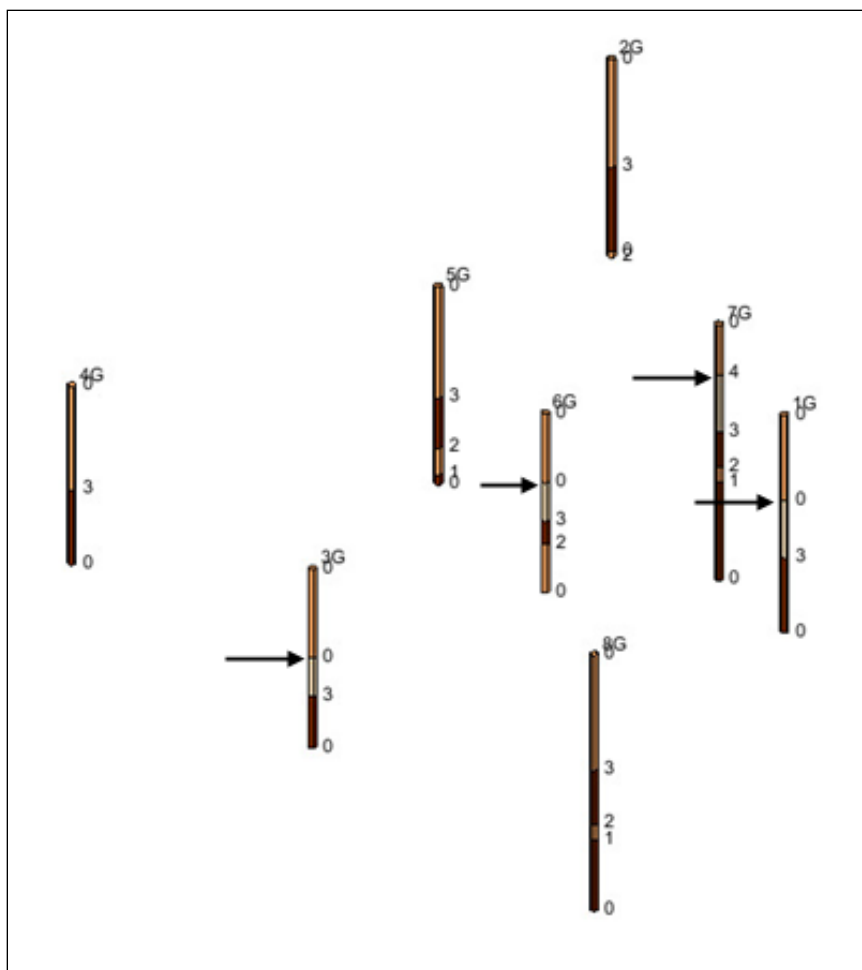

Figure 7 Contacts for Horizon 4
1. Using the **Select Contacts**  tool and the *Shift* key, select all of the contacts at the top of the clean sand material as seen in Figure 7.